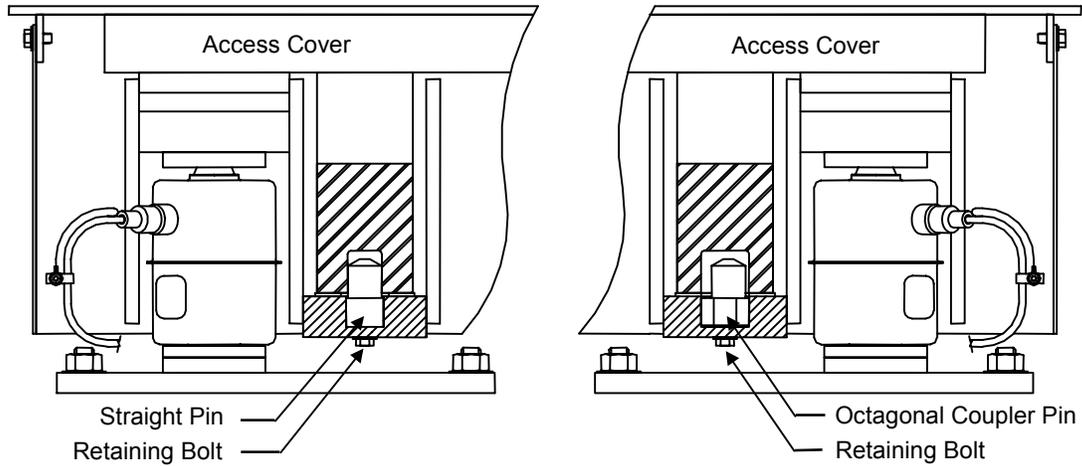

Figure 5-2: Module Alignment
- Remove the retaining bolt from the octagonal coupler pin of the adjoining module and lift the pin from the socket (see Figure 5-2). Turn the pin one position counterclockwise for left drift or clockwise for right drift, and then place it back into socket. Replace the retaining bolt.